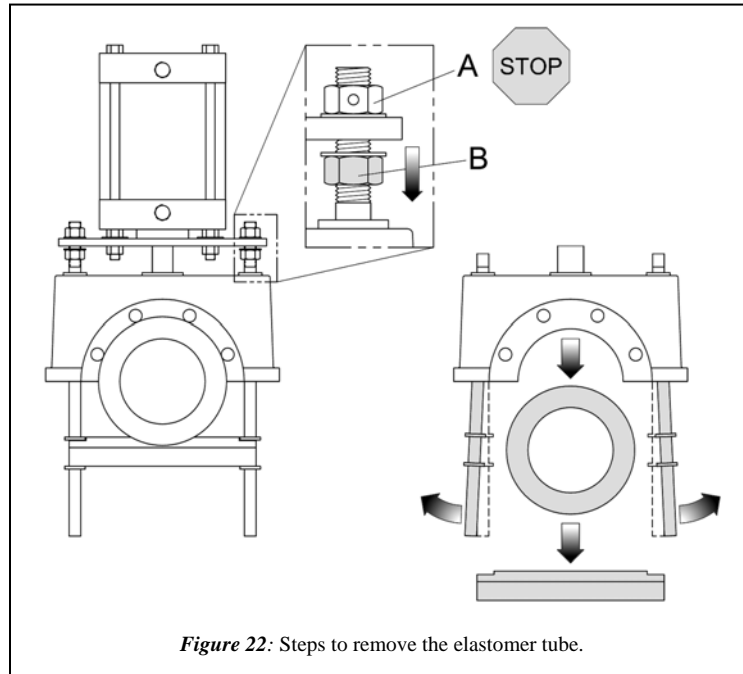

Figure 22: Steps to remove the elastomer tube.
STEP 4: Loosen the B-nut (Fig. 22). Take care that the A-nut does not turn. Spread the pull bars a part to take away the lower pinch bar and remove the elastomer tube.